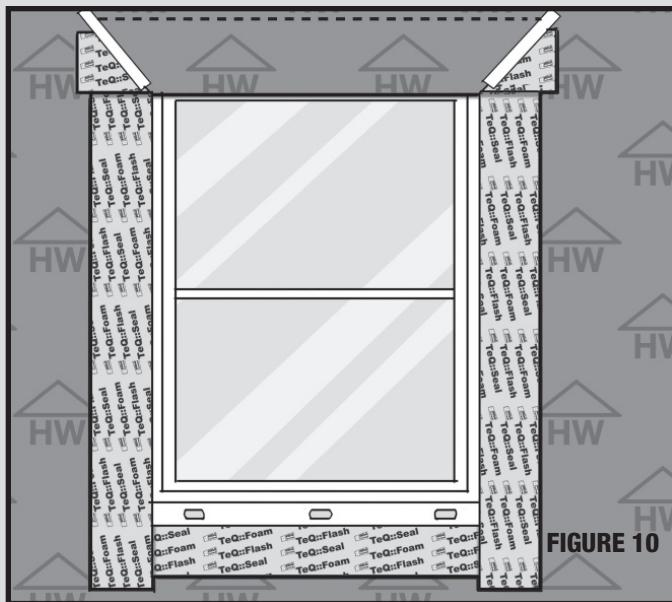

FIGURE 10
5.3.1. Remove tape that holds flap created in step 1 and pull flap down over head flashing. (Figure 10)